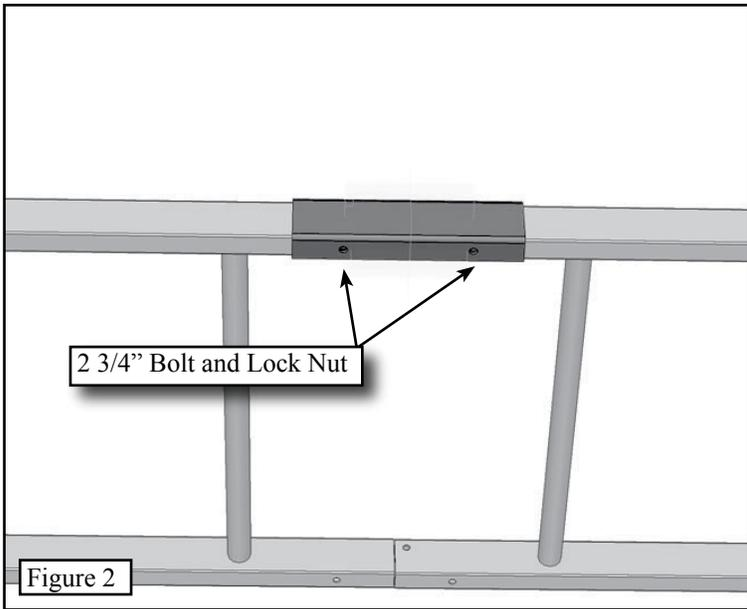

Figure 2
**Step 1.** Bolt together two of the bottom column assemblies. To do this, lay both assemblies down and butt them together as shown in **Figure 1**. Lay one coupler plate across the joint and bolt together using two 2 3/4" long bolts and lock nuts. See **Figure 2**. Repeat for the other side.